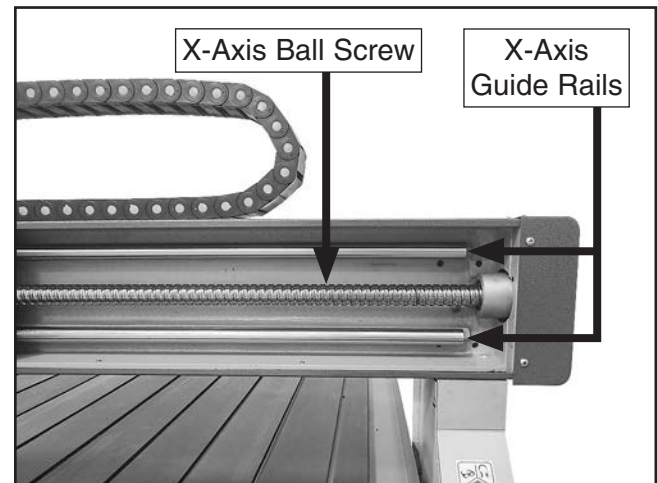

Figure 41. Example of X-axis ball screw and guide rail components.
3. Pull back gantry dust covers and clean X-axis ball screw with a brush and mineral spirits to remove grime and old lubrication (see **Figure 41**).
4. Clean X-axis guide rails with a clean rag dipped in mineral spirits to remove grime and old lubrication (see **Figure 41**).